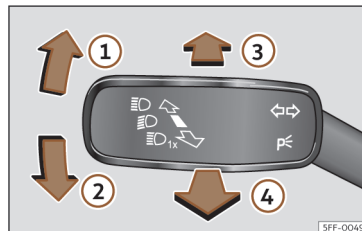

Fig. 96 Turn signal and main beam lever (depending on the version).
- From the base position, press the turn signal and main beam headlights lever forwards >>> **Fig. 96** .
- **OR:** while the main beam is on, pull the turn signal light and main beam headlights lever forwards >>> **Fig. 96** .